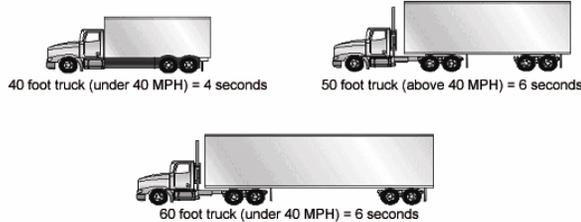

FIGURE 2.12
**How Much Space?** How much space should you keep in front of you? One good rule says you need at least one second for each 10 feet of vehicle length at speeds below 40 mph. At greater speeds, you must add 1 second for safety. For example, if you are driving a 40-foot vehicle, you should leave 4 seconds between you and the vehicle ahead. In a 60-foot rig, you'll need 6 seconds. Over 40 mph, you'd need 5 seconds for a 40-foot vehicle and 7 seconds for a 60-foot vehicle. See Figure 2.12.